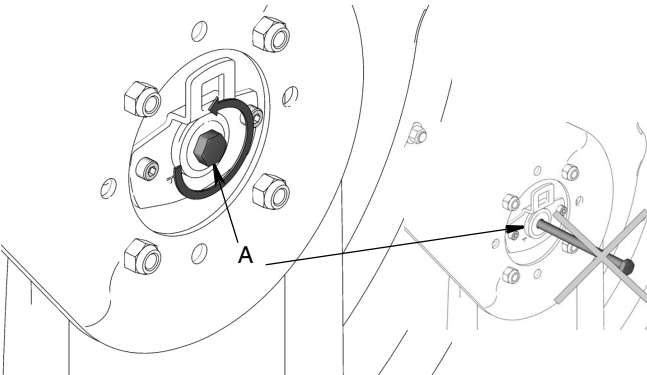

FIG. 18
1. Loosen, but **DO NOT REMOVE**, bolt (A) (approximately 3 to 5 turns) (FIG. 18).